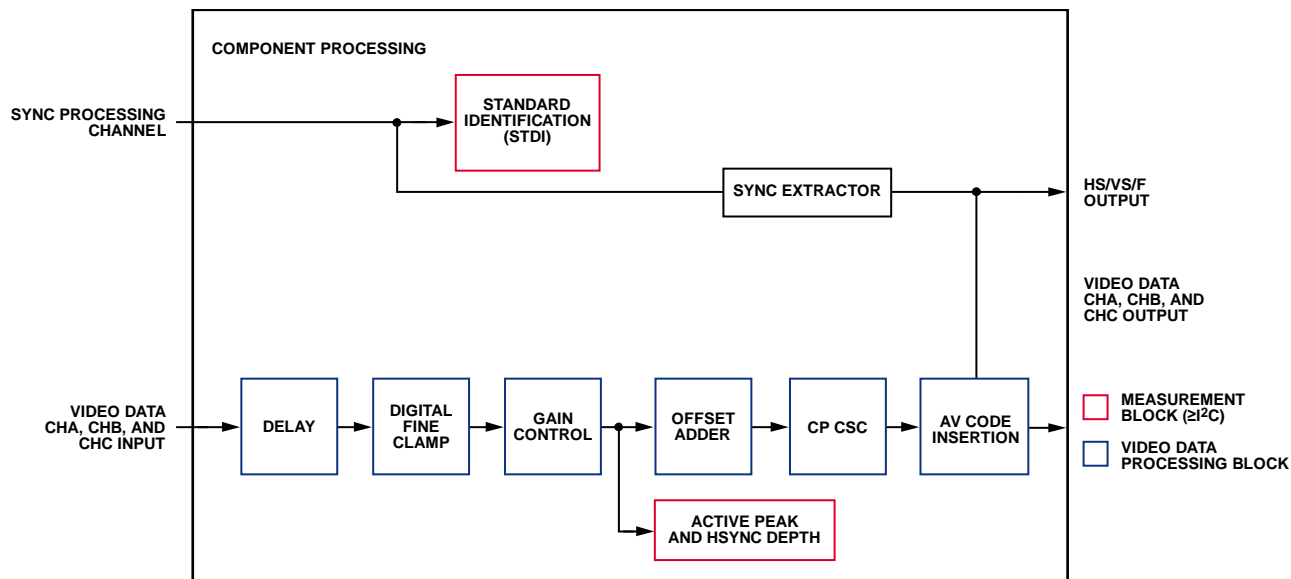

Figure 40. Component Processor Block Diagram
A simplified block diagram of the the component processor (CP) on the ADV7619 is shown in Figure 40. Data is supplied to the CP from the data preprocessor (DPP). The CP circuitry is activated under the control of **PRIM_MODE[3:0]** and **VID_STD[5:0]**.